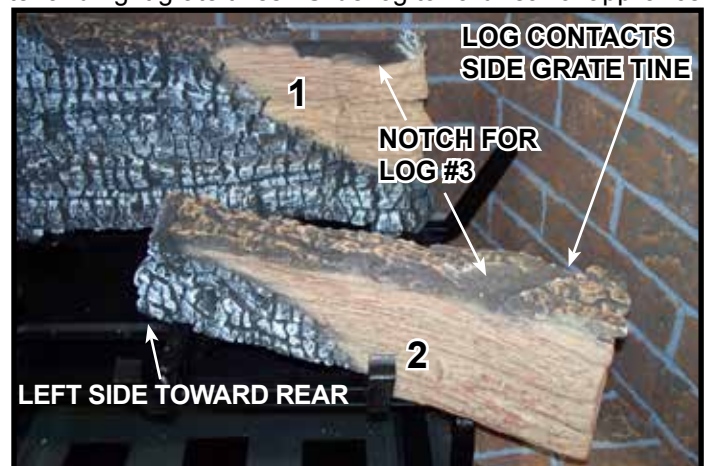
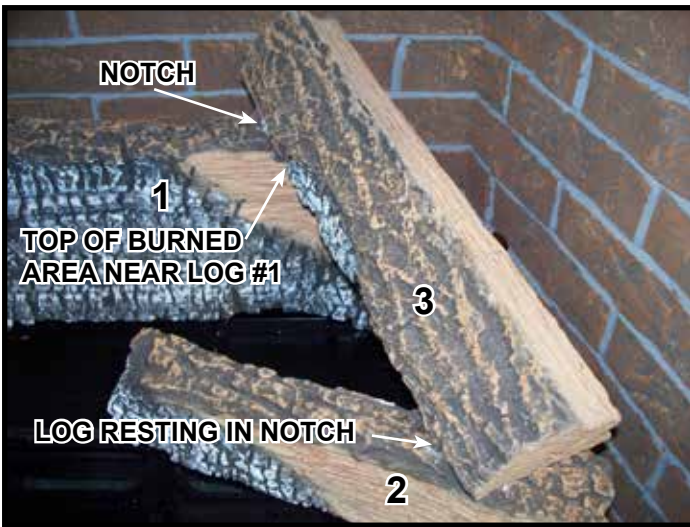

Figure 5.
Figure 6.
**Log #2 (SRV2280-702 for TRUE-36, SRV2281-702 for TRUE-42):** Locate log placement notch on the bottom of Log #2. See Figure 4. Mate notch on the bottom of Log #2 with the center and right grate tines. Slide log toward rear of appliance until right end contacts the side grate tine. See Figure 5.
**Log #2 (TRUE-36):** Log #2 will be about 1 inch from the back of the center grate tine when properly placed. See Figure 5.
**Log #2 (TRUE-42):** Log #2 will contact center log placement tab on center grate tine. See Figure 5.
**Log #3 (SRV2281-703):** Locate log placement notches for Log #3. See Figure 5. Place Log #3 onto notches so that the bottom of the log rests in the notch on log #2 and the top rests in the left hand side of the notch on Log #1. The top of the burned area on Log #3 will be close to Log #1 when properly positioned. See Figure 6.